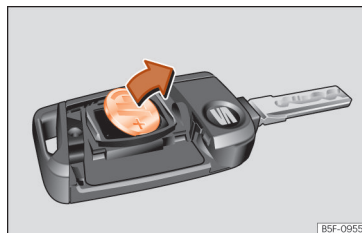

Fig. 81 Vehicle key: removing the battery.
- Extract the battery from the compartment using a suitable thin object »» Fig. 81.
- Place the new battery in the compartment as shown »» Fig. 81, pressing in the opposite direction to that shown by the arrow »» ❷.